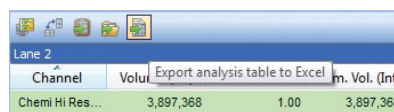

Fig. 11. Export the data to Excel.
- From the Analysis Table tools, click **Export analysis table to Excel** for additional analysis (Figure 11)